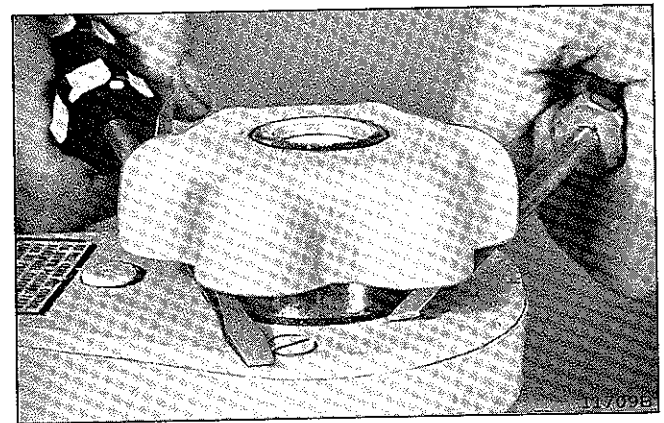

Figure 6-3.
b. Expose Load Brake Hub by prying off hand wheel as shown in Figure 6-3.